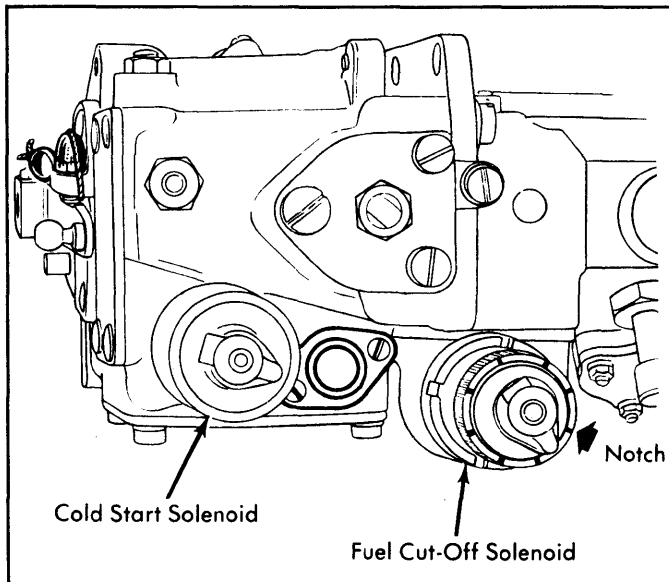

**Fig. 3: Idle Speed Adjustment**
- 1) With engine at normal operating temperature, remove air cleaner-to-equalizer hose. Loosen idle speed adjuster lock screw. Connect tachometer and exhaust gas analyzer to vehicle. Using Adjuster (A.2.0183), set idle speed to smoothest RPM. See Fig. 3. Tighten lock screw and reattach hose.